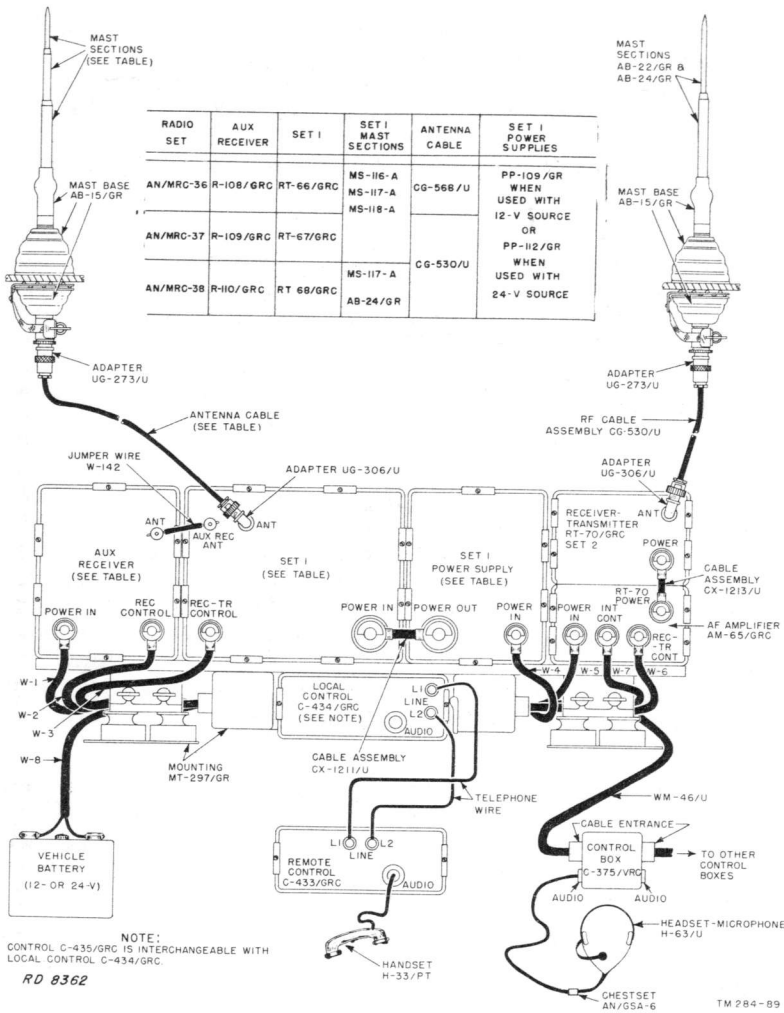

Figure 50.—System cordage diagram, AN/MRC-36, -37, and -38.
c. Figure 50 shows a typical vehicular installation of these radio sets.